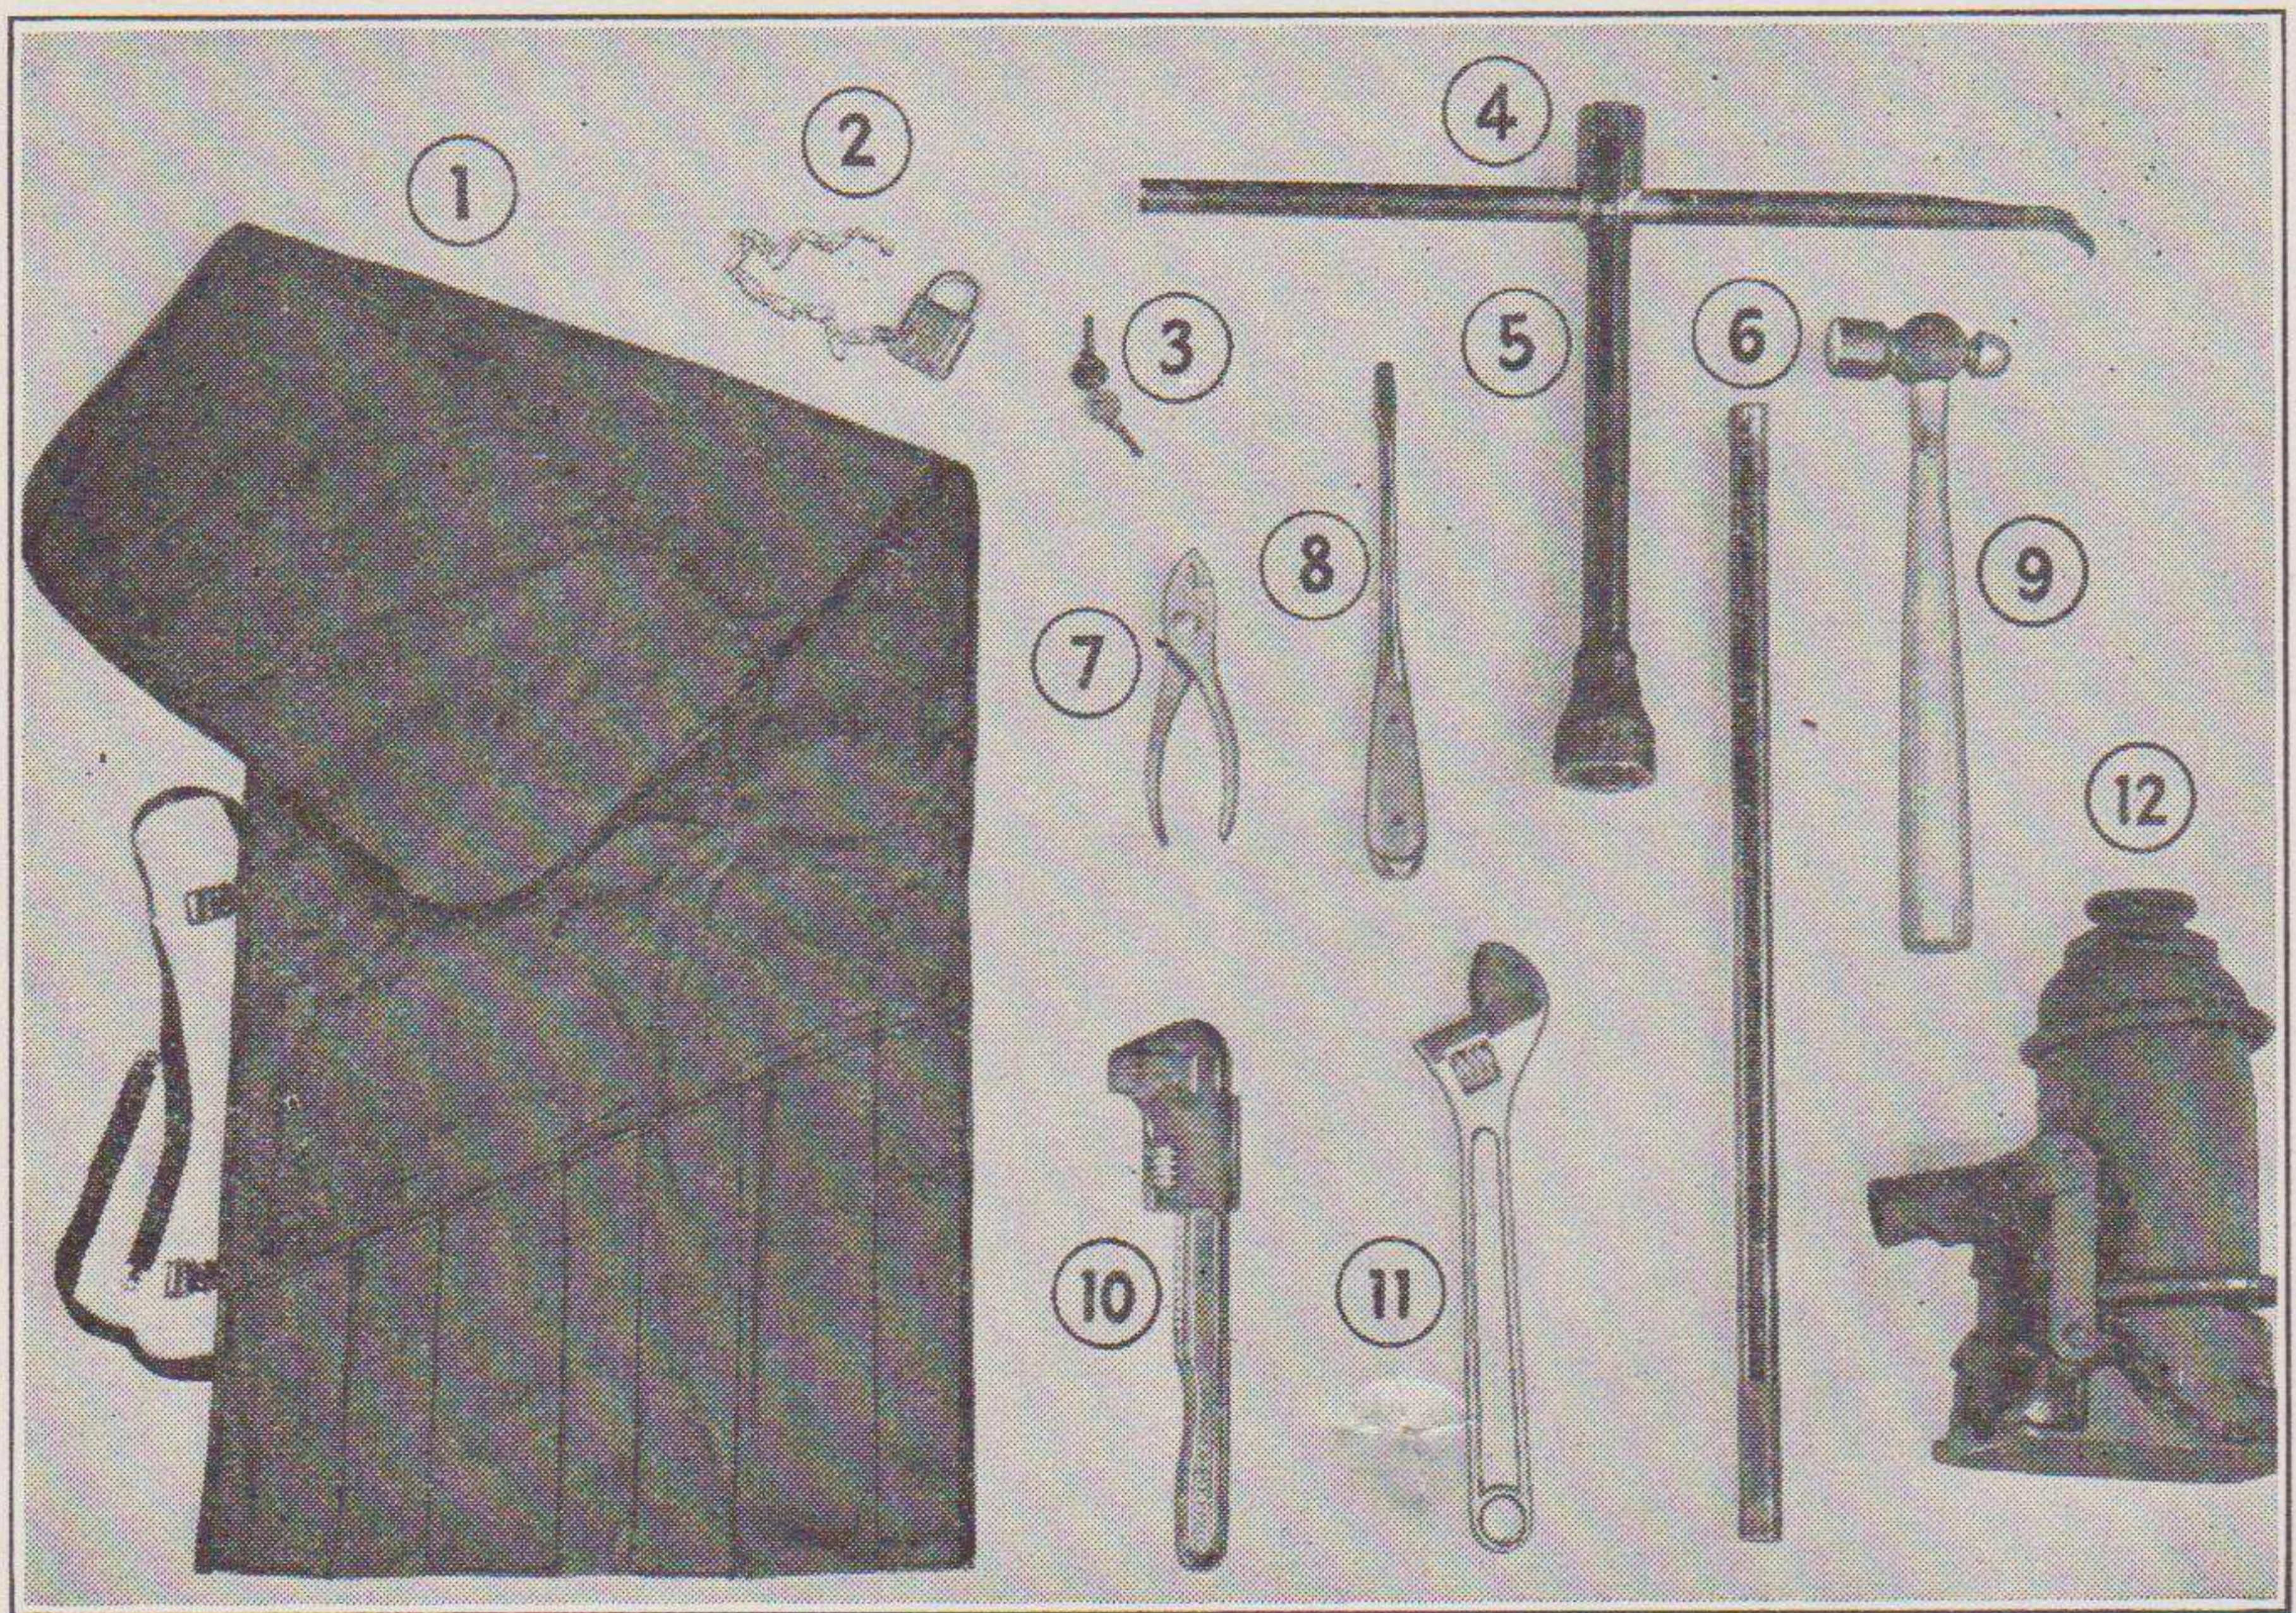

FIGURE 5. TOOLS
2. TOOLS.—Tools issued with the vehicle are illustrated in Figure 5.